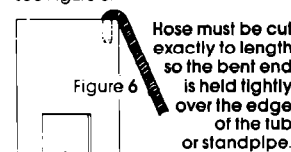

Figure 6
D. If the drain hose cannot be taped it must be cut exactly to length so the bent end is held tightly over the edge of the tub or standpipe see Figure 6.